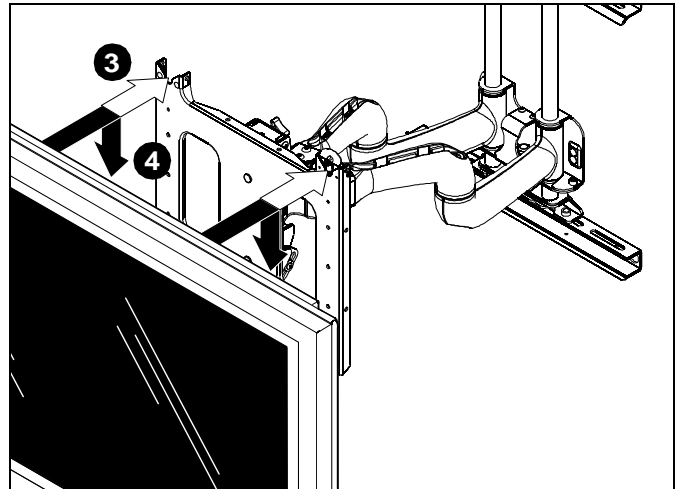
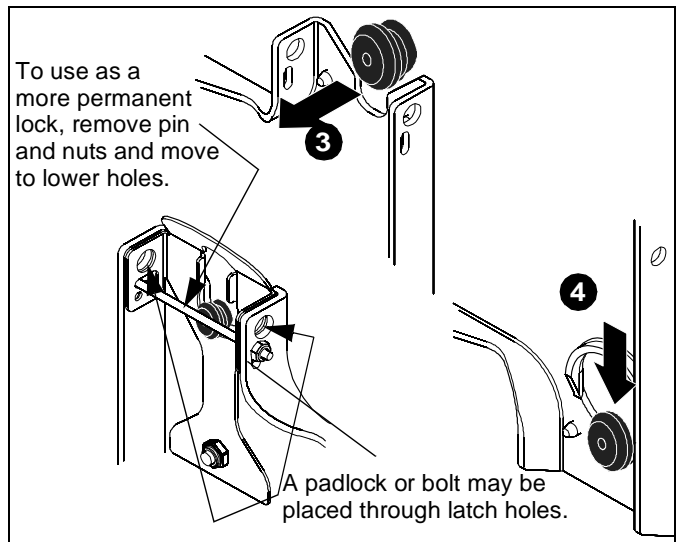

Figure 5
Figure 6
3. While supporting both sides of display, align four mounting buttons on display or interface bracket with four mounting holes in faceplate. (See Figure 5) and (See Figure 6)
4. Lower display into place listening for audible "click" to ensure recessed area of mounting buttons are properly seated in lower area of mounting holes and ClickConnect mechanism engages. (See Figure 5) and (See Figure 6)
**NOTE:** Holes are provided in the faceplate for use with a padlock or similar locking device, if desired. In addition, the pin and nut may be removed from the upper holes and moved to the lower holes for use as a more permanent locking device. (See Figure 6)